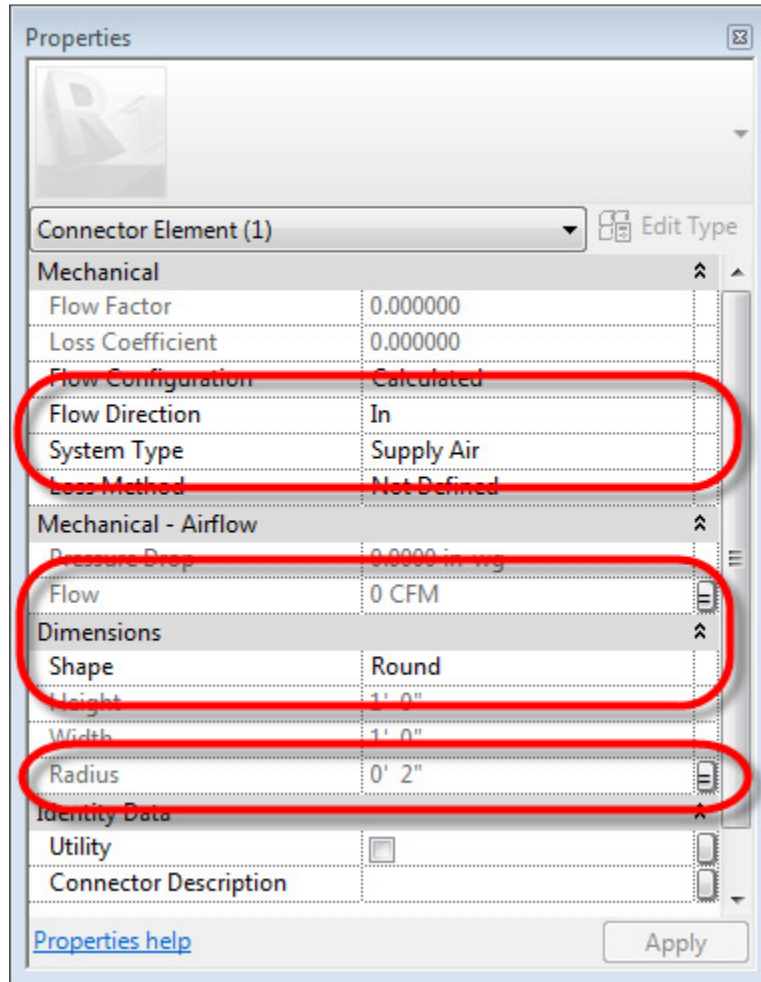

Figure 47. Establishing the properties for the Inlet Duct Connector.
5. With the connector selected, in the **Properties** dialog change the *Shape* to **Round** as shown in figure 47. Also change the *Flow Direction* to In and make sure the *System Type* is set to **Supply Air**.
8. Click **OK** to return to the Properties dialog. It should look like Figure 47.